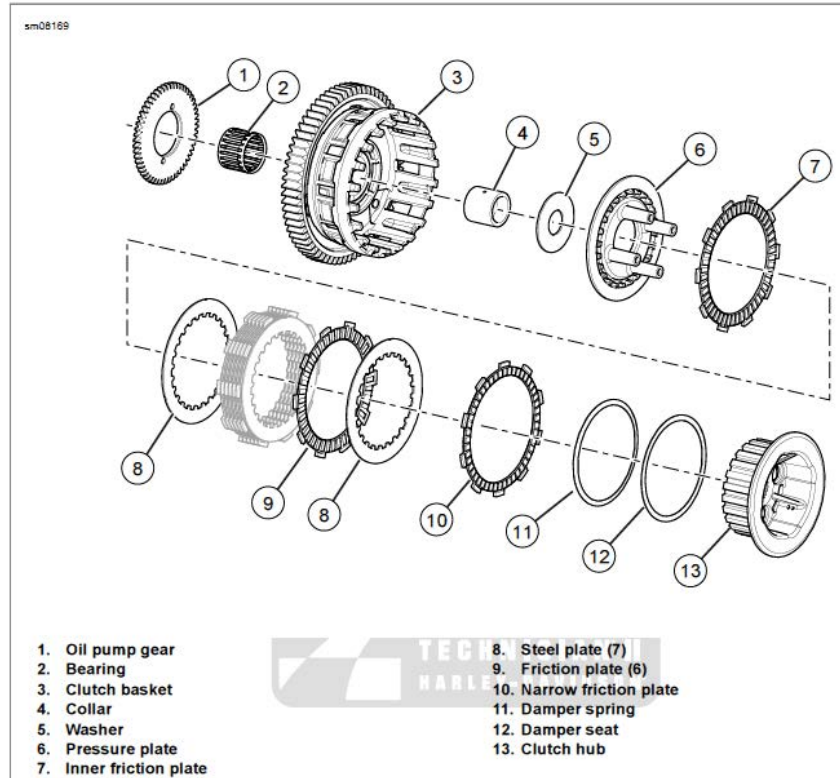

Figure 5-11. Clutch Assembly
- b. Install narrow friction plate (2).
- c. See Figure 5-11. Install steel plates (8) and friction plates (9).
- d. Install pressure plate (6).